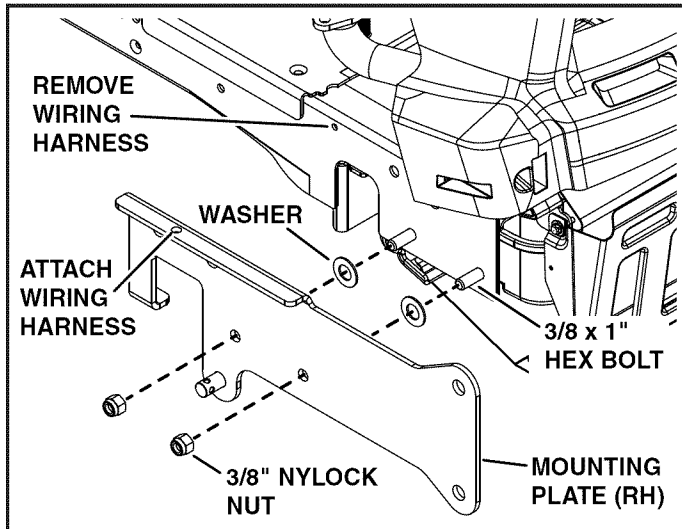

FIGURE 1
STEP 2: (SEE FIGURE 1)
- Assemble the mounting plate (RH) to the tractor frame using two 3/8 x 1" hex bolts, washers, and 3/8" nylock nuts.
- Attach the wiring harness clip to the top of the mounting plate (RH).
- Repeat for mounting plate (LH).